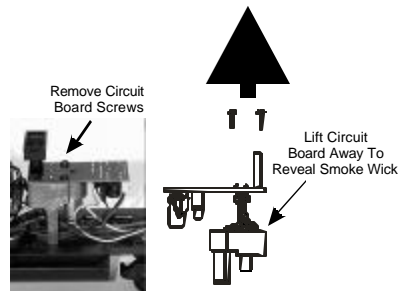

Figure 2: Inspecting The Smoke Unit
***CAUTION:** Operating the engine without smoke fluid and with the smoke unit switch in the ON position can damage your smoke unit wick, causing the wick to become hard, blackened and unabsorbant around the heating element. When this occurs, it may be difficult for the wick to soak up the smoke fluid resulting in poor or no smoke output. If that occurs, we recommend that you inspect and/or replace the wick taking care to not run the engine without fluid in the future. You can inspect the wick to see if it needs replacement by removing the smoke unit circuit board from the smoke unit body as seen in Fig.2. After removing the circuit board screws lift the circuit board away and inspect the wick. If the wick is darkly discolored and hard, it should be replaced.*